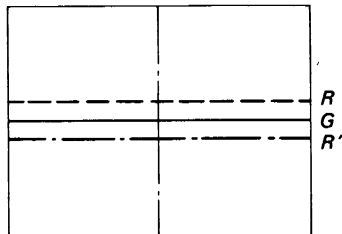

Fig. 3-17
- (1) Set the TEST/NORMAL switch to TEST.
- (2) Rotate the red deflection yoke so that the red horizontal center line is parallel with the green horizontal center line (Fig. 3-17).